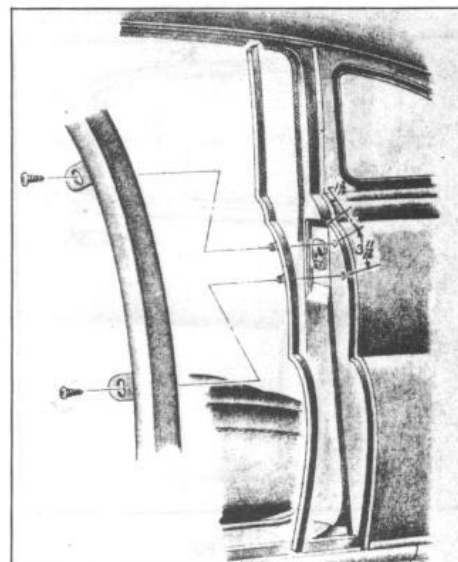

FIGURE 29
1. Remove two Phillips head sheet metal screws, Figure 29, and remove the old weatherstrip.
**NOTE: On some of the early models it may be necessary to drill the two 7/64" holes when installing the latest type weatherstrip. See Figure 29 for location of the two holes.**